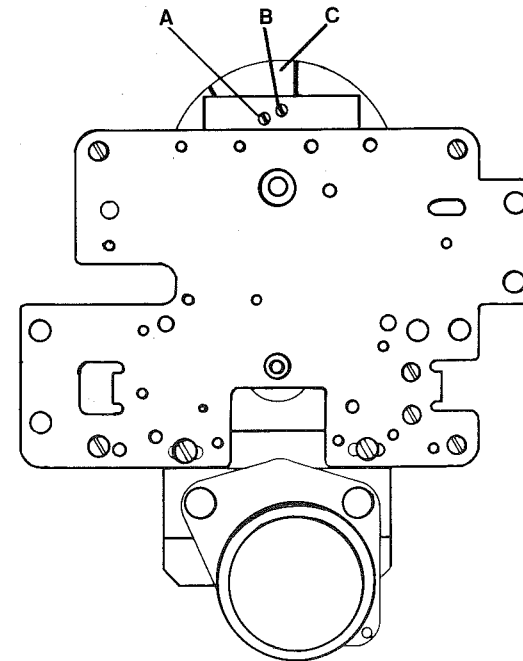

FIGURE 14
YEAR SEGMENT FOR RIGHT-HAND PRINT RECORDER (Figure 14)
6. Press the year segment against the typeshaft collar (not visible in Figure 14), and insert and tighten screws A and B.